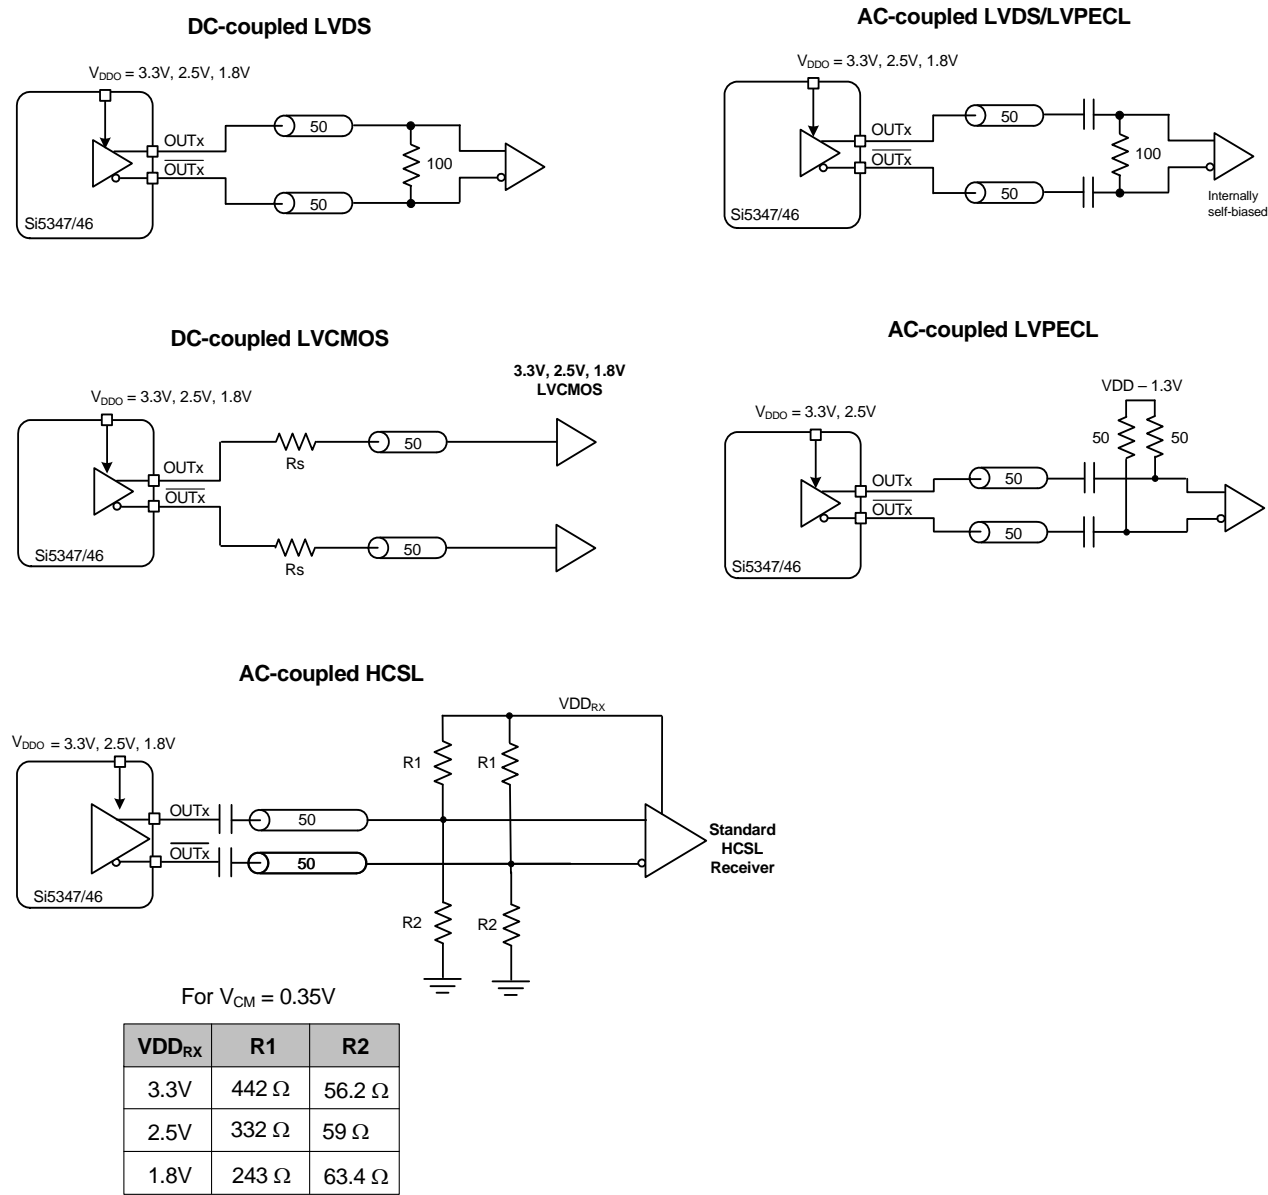

Figure 25. Supported Differential Output Terminations
The differential output drivers support both ac-coupled and dc-coupled terminations as shown in Figure 25.
- **Differential Normal Mode:** When an output driver is configured in normal amplitude mode, its output amplitude is selectable as one of 8 settings ranging from 130 mVppse to 920 mVppse in increments of 100 mV. The output impedance in the normal mode is 100  $\Omega$  differential. Any of the ac-coupled terminations shown in Figure 25 are supported in this mode.
- **Differential Low Power Mode:** When an output driver is configured in low power mode, its output amplitude is configurable as one of 8 settings ranging from 200 mVppse to 1600 mVppse in increments of 200 mV. The output driver is in high impedance mode and supports standard 50  $\Omega$  PCB traces. Any of the ac-coupling terminations shown in Figure 25 are supported in this mode.